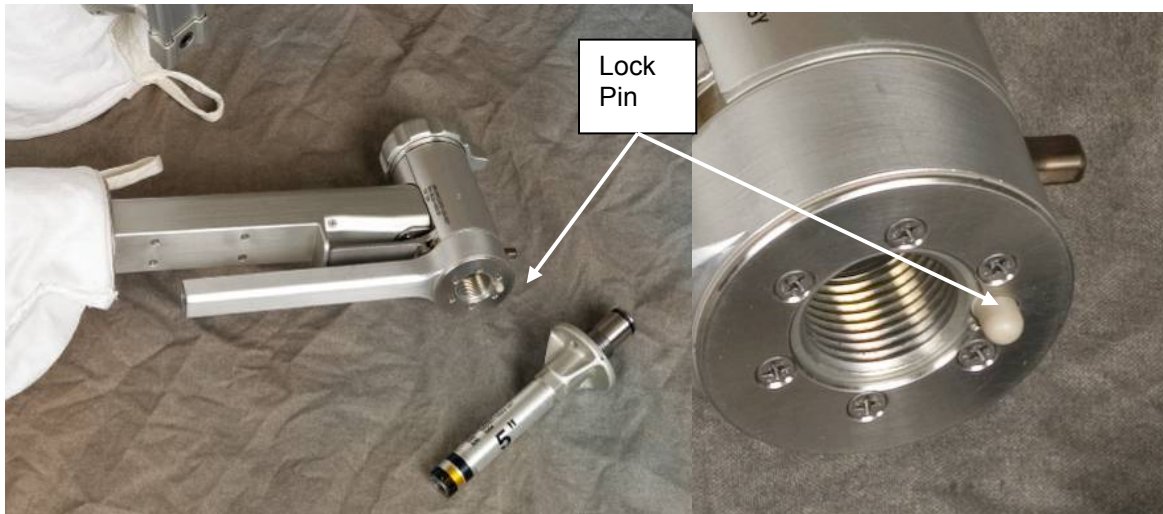

Figure 4 - Nozzle Installation
27. After ~5 turns lock pin will engage; will need to depress lock pin at least once and continue to rotate the nozzle cw to achieve full turn count (figure 4).